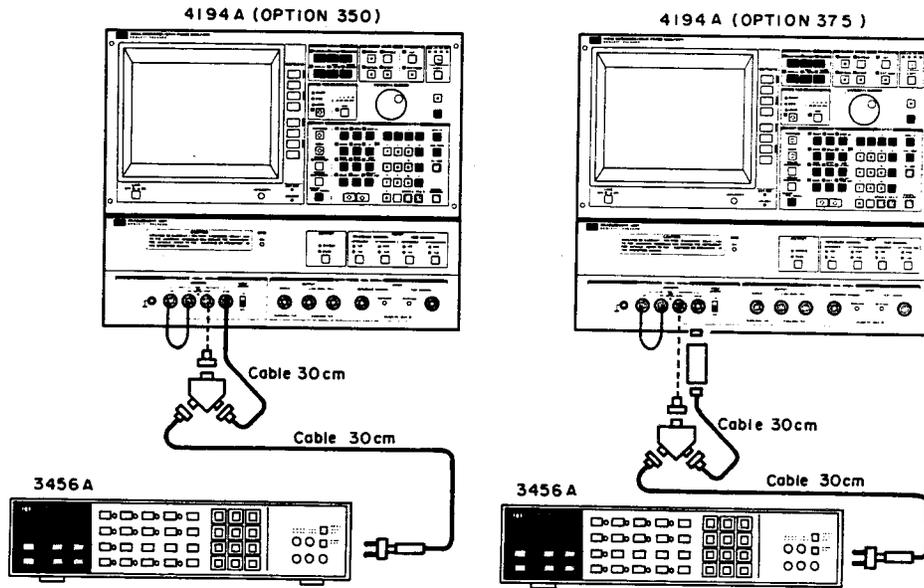

Figure 4-33. Impedance Measurement V Level Monitor Test Setup 1
1. Set up the equipment as shown in Figure 4-33. Connect the 11667A's INPUT PORT to the HPort terminal.